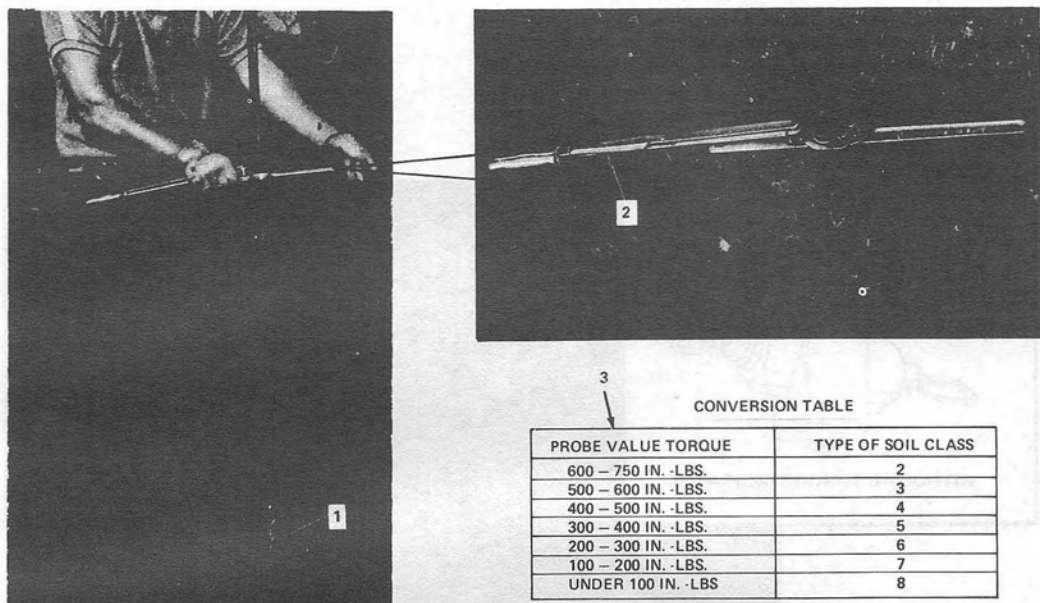

Fig. 5—Determine Soil Class Using the Soil Test Probe
- (1) Determine the soil class in the area of installation. Refer to Table B for definitions of soil class. ♦The B soil test probe may be used to determine the soil classification as shown in Fig. 5.♦
- (2) Determine the maximum guying load required.
- (3) Select the proper rod and anchor from Table A which will accommodate the soil class and maximum guying load required.